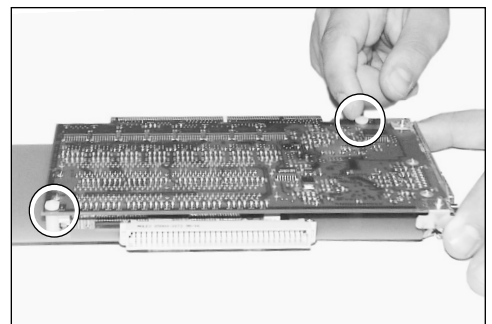

Figure 12: Secure HPV card to adapter board with nuts
- Secure the HPV card to the video adapter board with the two nuts (**Figure 12**) supplied with the adapter kit.